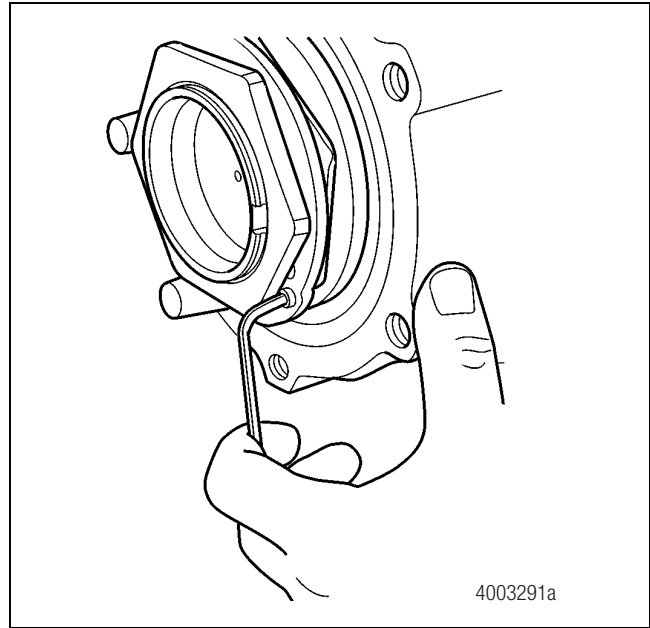

Figure 6
- A. Use a number 2 metric Allen-wrench to remove the set screw from the lock washer. Figure 6.